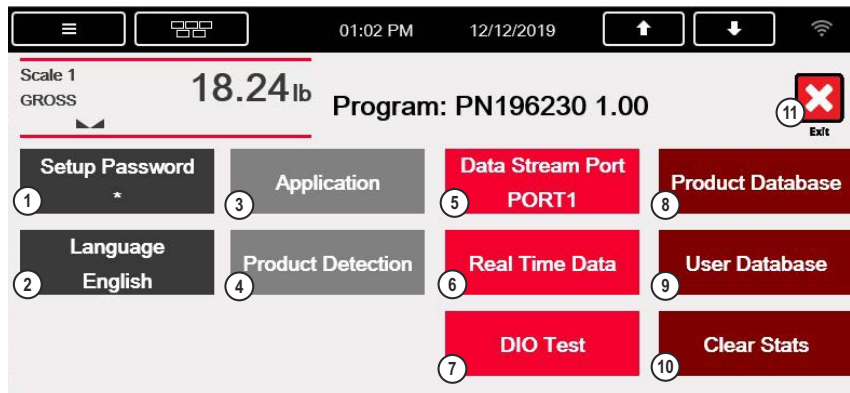

Figure 4-1. Setup Menu
5. Sends out data string (Section 4.6 on page 23) out the configured port (either Port 1 or TCP Client 1. See Figure 4-1 on page 20).
1. Press Setup in the weigh mode display. See Figure 4-1.